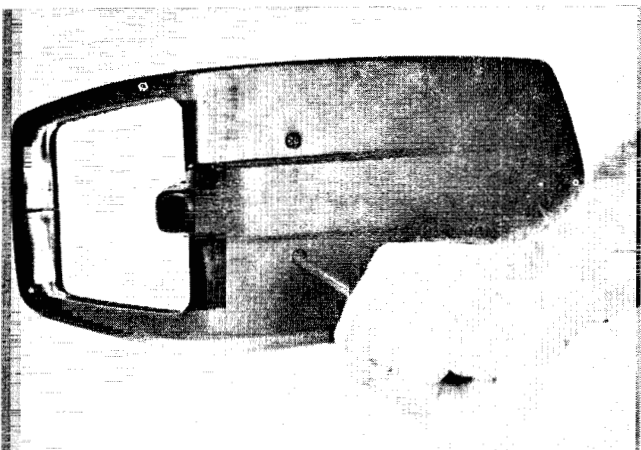

Figure 5.41b
- C. Remove the 2 screws on the bottom of battery case (fig. 5.41b).